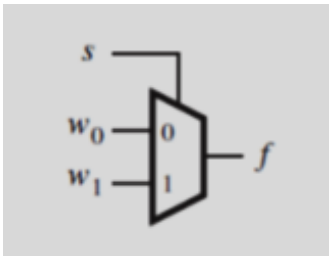

Figure 5.1a Graphical symbol
- Fig. 5.1a shows the graphical symbol for a 2-to-1 multiplexer.